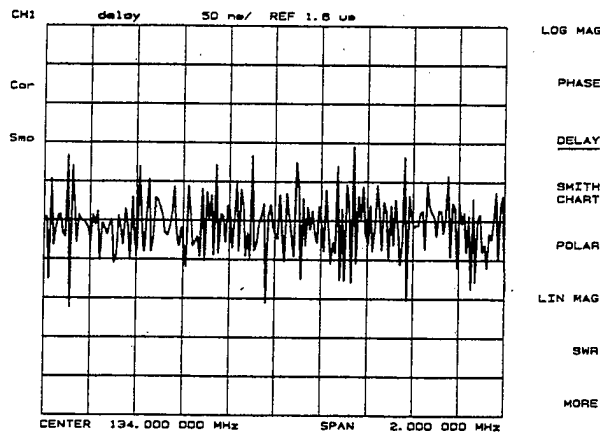

Figure 7-11. Group Delay Format
**[DELAY]** (DELA) selects the group delay format, with marker values given in seconds. Figure 7-11 shows the bandpass filter response formatted as group delay. Group delay principles are described in the next few pages.